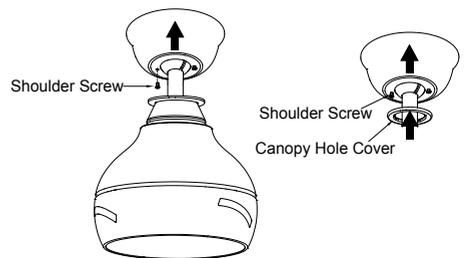

Fig. 9
**Step 6.** Remove one of the two shoulder screws in the hanger bracket. Loosen the second shoulder screw without fully removing it. Assemble canopy by rotating key slot in canopy over shoulder screw in hanger bracket. Tighten shoulder screw. Fully assemble and tighten second shoulder screw that was previously removed. Securely attach and tighten the canopy trim cover over the shoulder screws in the hanger bracket utilizing the keyslot twist-lock feature. (Fig. 9)